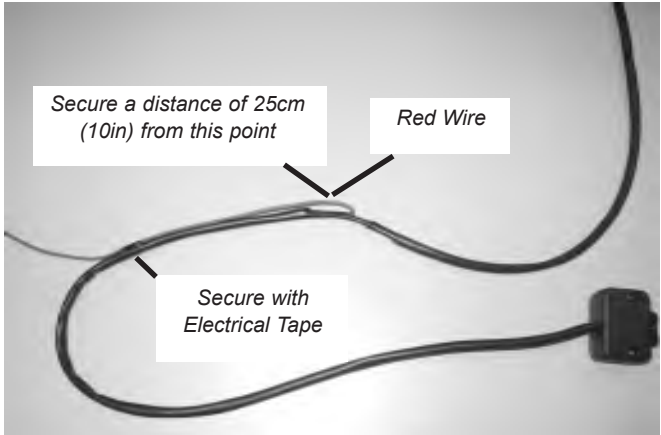

Figure 21 Red Wire - Tie-off 25cm (10in)
- a. Before installing the winch switch, route the red wire towards the switch case. Secure with electrical tape a distance of approximately 25cm (10in) from where the red wire protrudes from the back casing towards the switch case, figure 21. This will allow you to see the red wire when routing the switch wires, down the steering column, to the contactor.